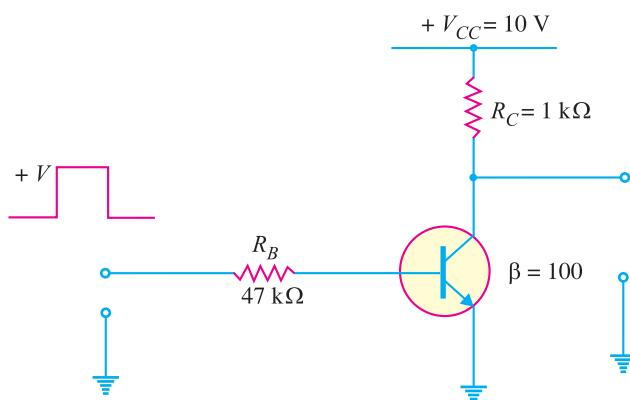

Fig. 18.6
**Example 18.1.** Determine the minimum high input voltage ( $+V$ ) required to saturate the transistor switch shown in Fig. 18.6.